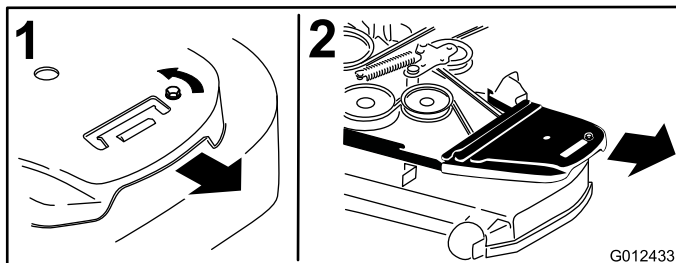

Figure 79
4. Remove the belt covers and the bolts attached to them (Figure 79).